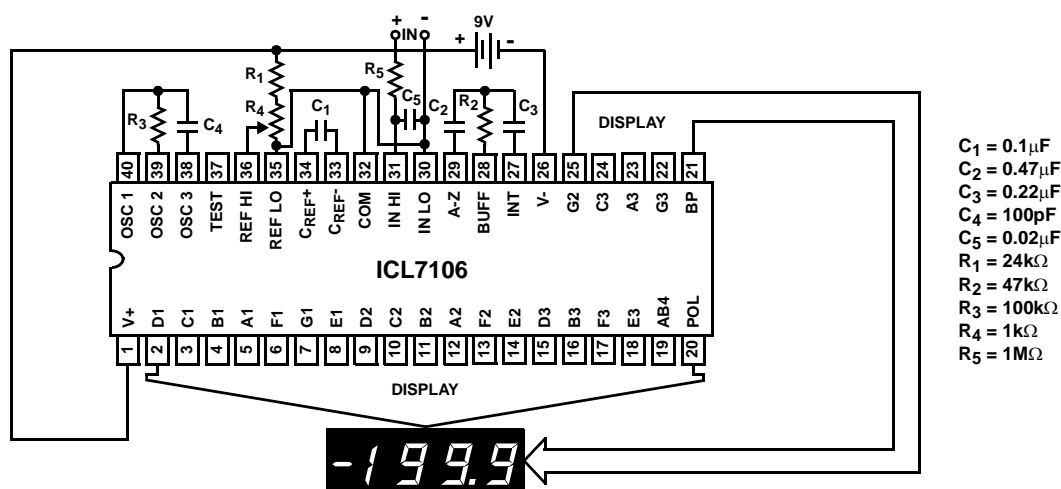
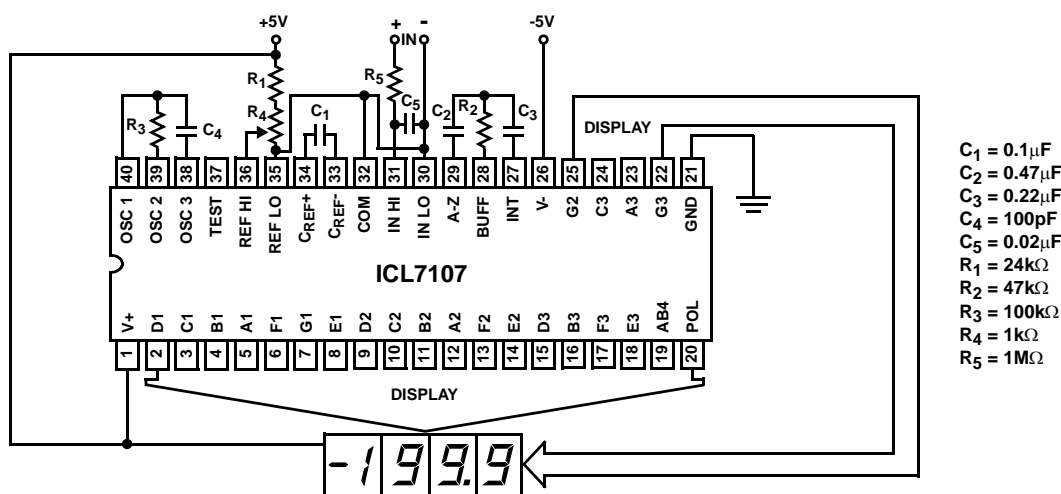

FIGURE 1. ICL7106 TEST CIRCUIT AND TYPICAL APPLICATION WITH LCD DISPLAY COMPONENTS SELECTED FOR 200mV FULL SCALE
FIGURE 2. ICL7107 TEST CIRCUIT AND TYPICAL APPLICATION WITH LED DISPLAY COMPONENTS SELECTED FOR 200mV FULL SCALE
- Unless otherwise noted, specifications apply to both the ICL7106 and ICL7107 at  $T_A = 25^\circ C$ ,  $f_{CLOCK} = 48kHz$ . ICL7106 is tested in the circuit of Figure 1. ICL7107 is tested in the circuit of Figure 2.